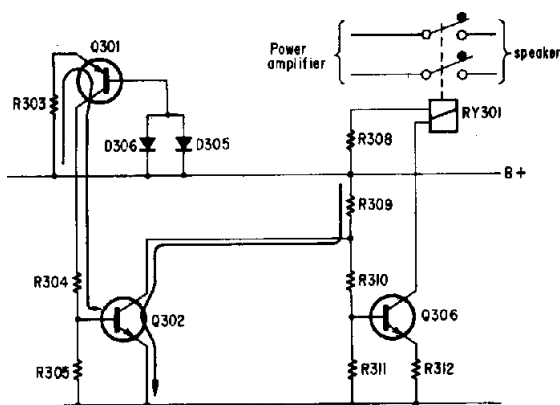
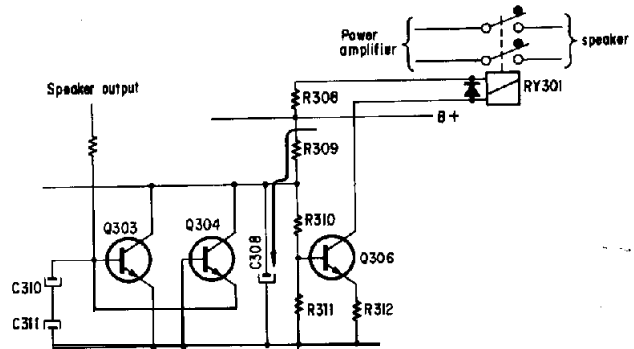

Fig. 1-1.
Fig. 1-2.
**2. Speaker Protection Circuit (See Fig. 1-1 and Fig. 1-2)**
- When the positive dc component presents at the speaker output terminal, C310 is charged up as shown in Fig. 1-2. Q303 turns on, Q306 turns off and the relay RY301 is not activated (4304 remains in off condition). Also, when the negative dc component presents, C311 is charged up. This turns 9304 on, Q306 off and RY301 is not activated (9303 remains in off condition).